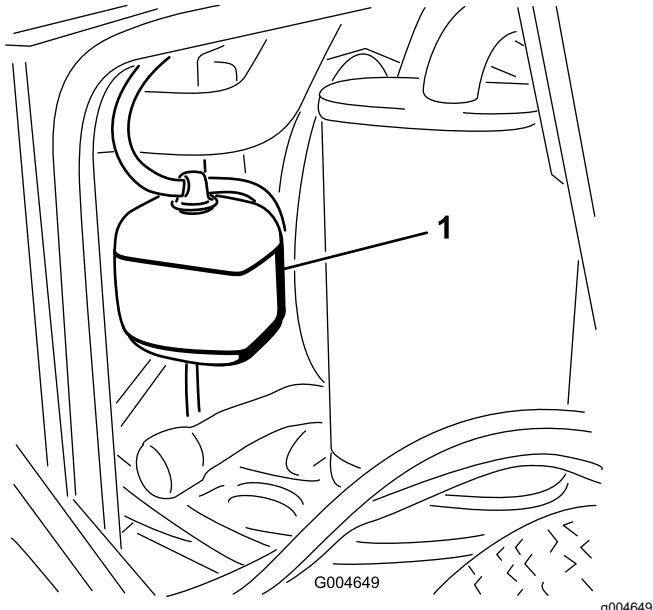

Figure 44
- Check the level of the coolant in the expansion tank (Figure 44).